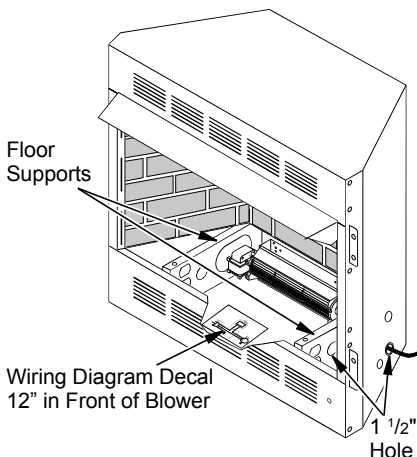

Figure 12 - Location of Wiring Diagram Decal
13. Peel off the backing paper and stick the supplied wiring diagram decal on the firebox bottom approximately 12" in front of the blower (see Figure 12).